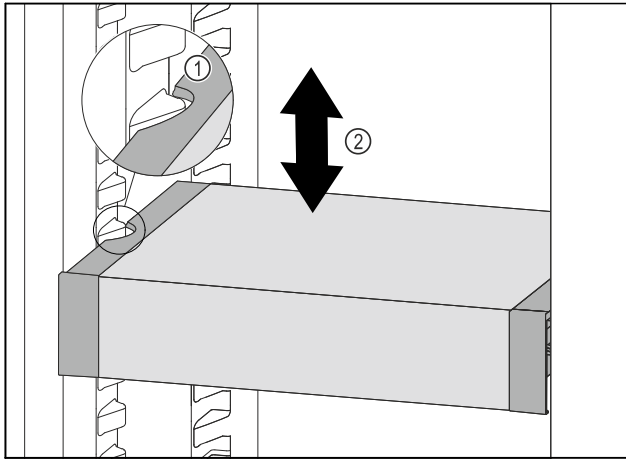

Fig. 96
- Pull VarioSafe forwards until the recesses in the side of the VarioSafe are at the level of the support rib in the refrigerator compartment. *Fig. 96 (1)*
- Move VarioSafe up or down in the refrigerator compartment until the desired height is reached. *Fig. 96 (2)*